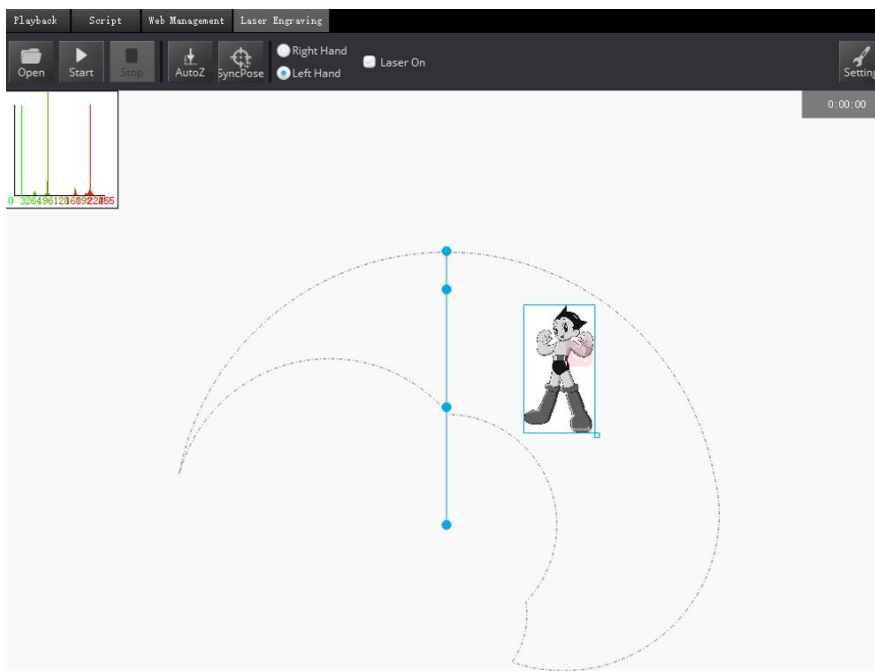

Figure 6.17 Import picture
Step 2 Click **Open** on the Laser Engraving page, and select the picture to be engraved, as shown in Figure 6.17.
- The annular region depends on the arm orientation. Please adjust the imported picture according to the real annular region. Figure 6.17 shows the annular region when arm orientation is left.